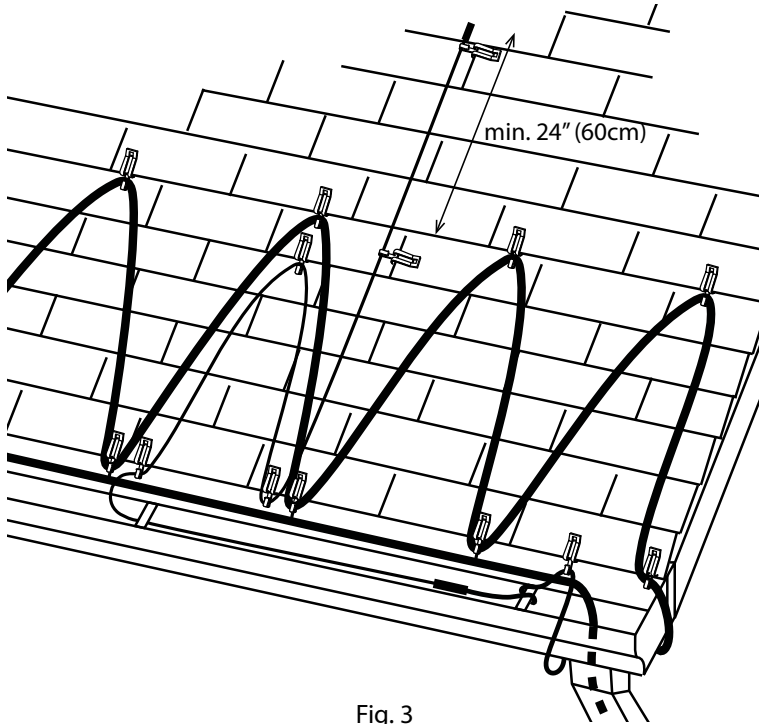

Fig. 3
2. Place splice connection and sensor wire along the bottom of the gutter approximately two inches within the roof and gutter cable. See Fig.3.
c. Run the sensor wire along one zig-zag of the roof and gutter heating cable on the roof as shown on Fig. 3.
- d. Run the sensor wire up the roof, at least 2 feet (60cm) beyond the roof and gutter heating cable as shown on Fig. 3.
3. Run the sensor wire along one zig-zag of the roof heating cable on the roof as shown on Fig. 3.
4. Run the sensor wire up the roof, at least 2 feet (60cm) beyond the roof heating cable shown on Fig. 3.